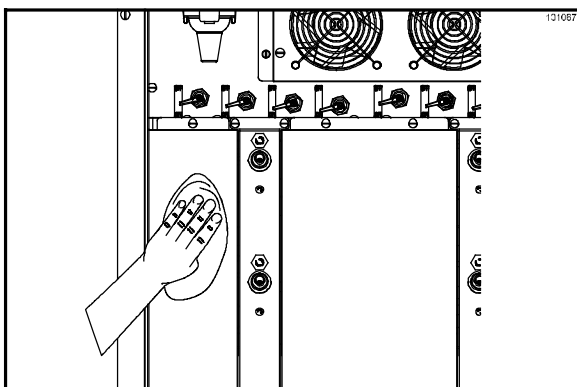

Figure 103
- Wipe the inside of the cabinet door and inlet fittings, using an approved sanitizing solution containing an active chlorine concentrate of 100 - 200 PPM and a clean, sanitized towel. (See Figure 103.)